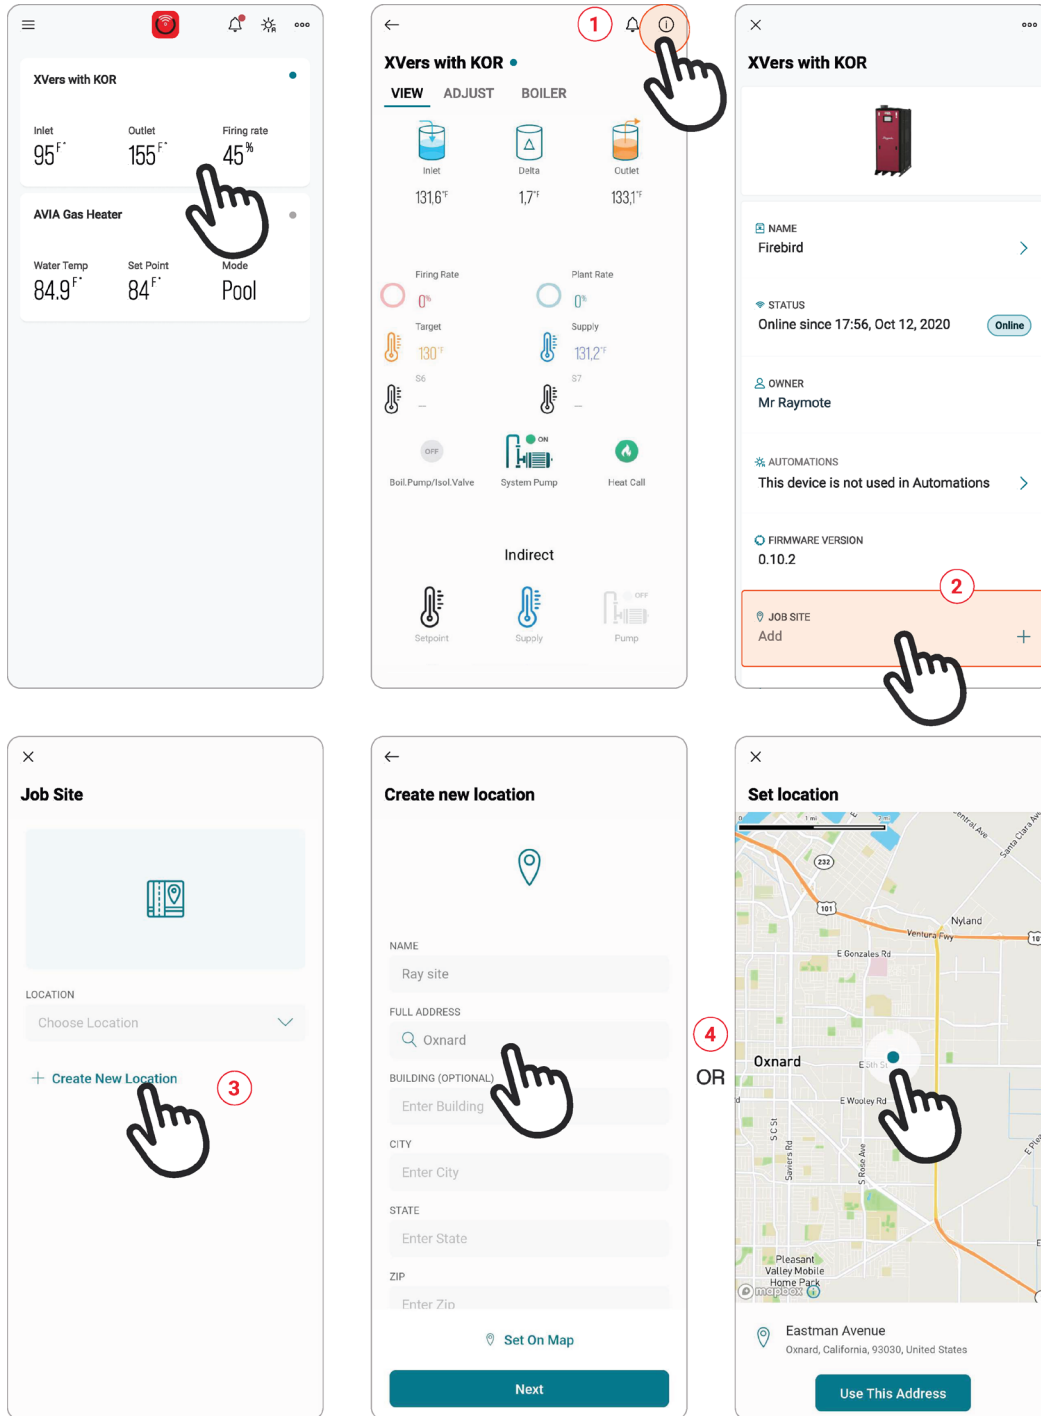

Figure 53. New Location From App
1. From Boiler main view, click in the 3-dots icon (...) on top right corner. On the next screen, click on the Information icon. See **Figure 53**.